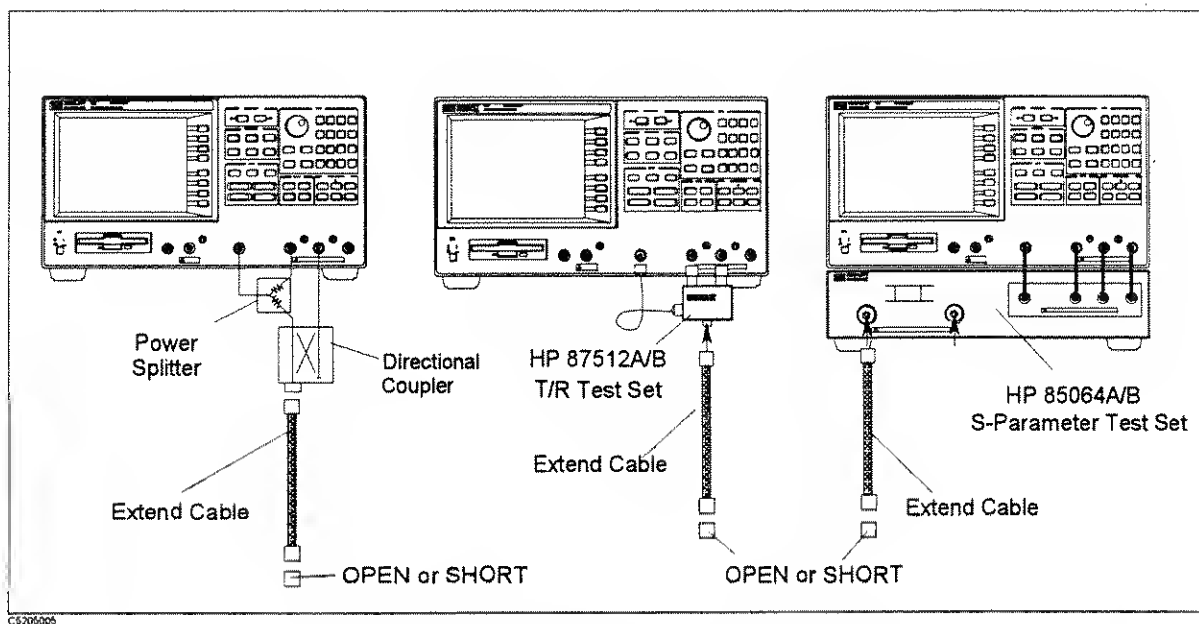

Figure 5-8. Cable Measurement Configuration
1. Connect the cable as shown in Figure 5-8.